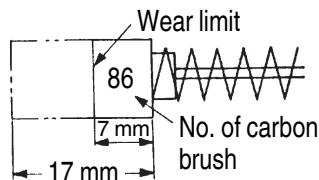

Fig. 10
5. Inspecting the carbon brushes (**Fig. 10**)